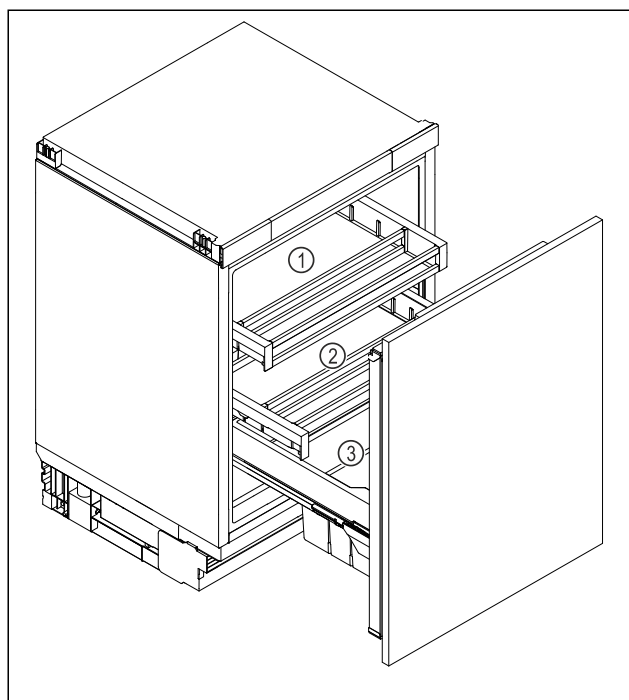

Fig. 6 Example illustration
- Top drawer Fig. 6 (1): Store butter, cheese, tinned food and tubes.
- Bottom drawer Fig. 6 (2): Store particularly perishable foods such as ready meals, fish, meat and sausage products.
- Fruit and vegetable box Fig. 6 (3): Store packaged fruit and vegetables.
- Drinks compartment Fig. 6 (3): Store individual bottles.